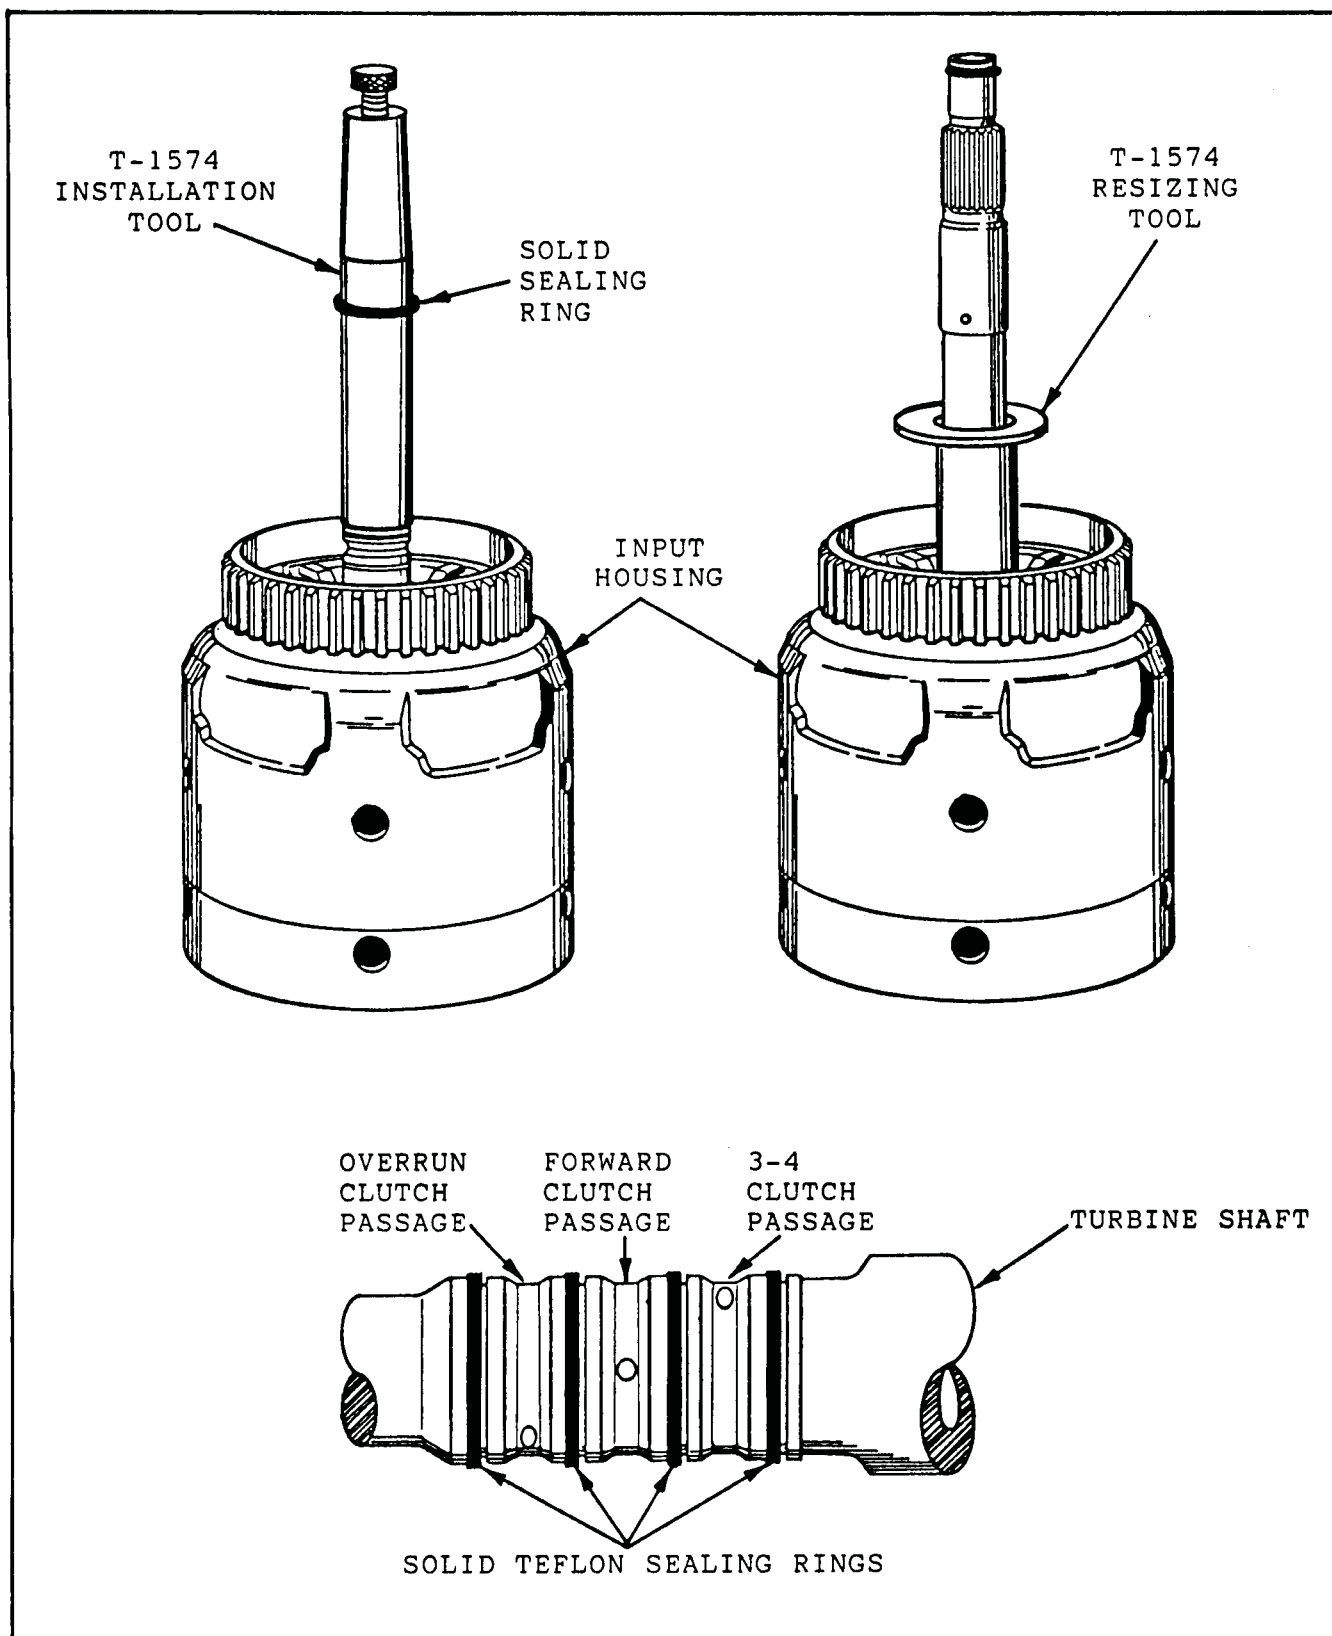

Figure 117
10. Air check the 3-4, forward, and the overrun clutches by applying air pressure at the feed holes in the turbine shaft (See Figure 117).
1. Set input housing on bench with the turbine shaft facing up, as shown in Figure 117.
2. Install the four "Solid" turbine shaft sealing rings onto the input shaft beginning with the bottom ring, as shown in Figure 117.
4. The solid sealing rings will require an installation tool, and re-sizing tool as shown in Figure 117.